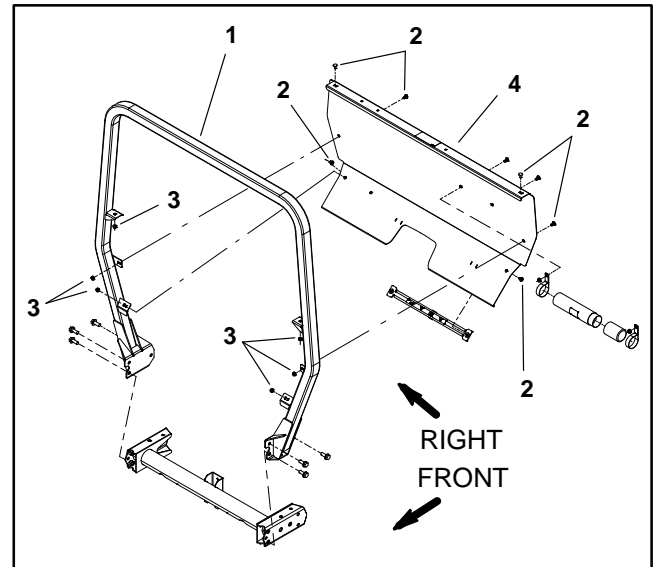

Figure 35
4. Remove six (6) carriage screws and flange nuts that secure ROPS cover to ROPS frame. Remove cover from vehicle (Fig. 35).
4. Plug shift plate (item 5) connector into vehicle wire harness. Position shift plate to seat base and secure with four (4) washer head screws. Torque screws a maximum of **12 in-lb (1.3 N-m)**.
6. Install ROPS cover to vehicle (Fig. 35).